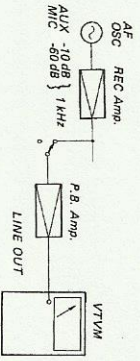

Fig. 12-32 Interference check setup between MIC & AUX VOLUMES
- Connection: As shown in Fig. 12-32.